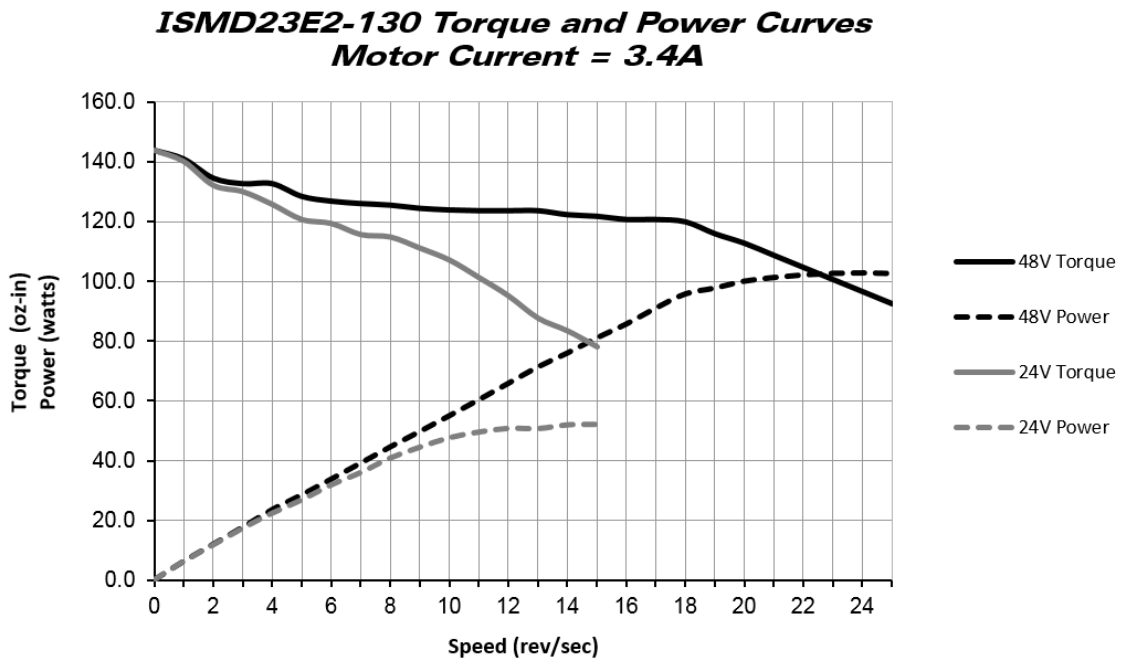

Figure R1.6 ISMD23E-130 Torque and Power Curves
**Example 1:** An ISMD23E2-130 will be running at a maximum of 20 RPS and a 48 Vdc supply will be used. Based on the power curve in figure R1.6 on the previous page, the power at this speed is 100 watts, which is the maximum power over the entire speed range. Therefore, the 48 Vdc supply should be able to supply 150 to 175 watts of power.